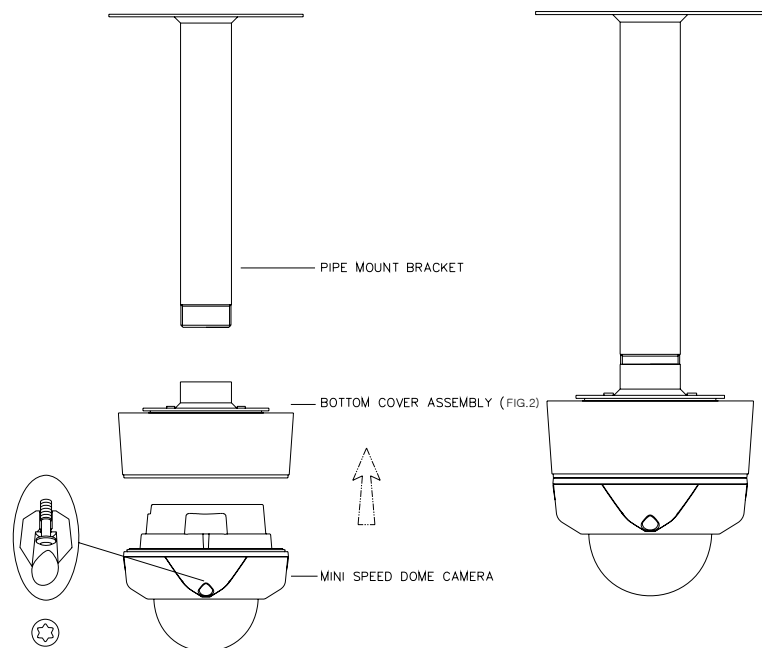

FIG.14
5. As shown on FIG.14, after assembling mini PTZ and bottom cover assembly, drive the pipe mount bracket and fix. (FIG.14)